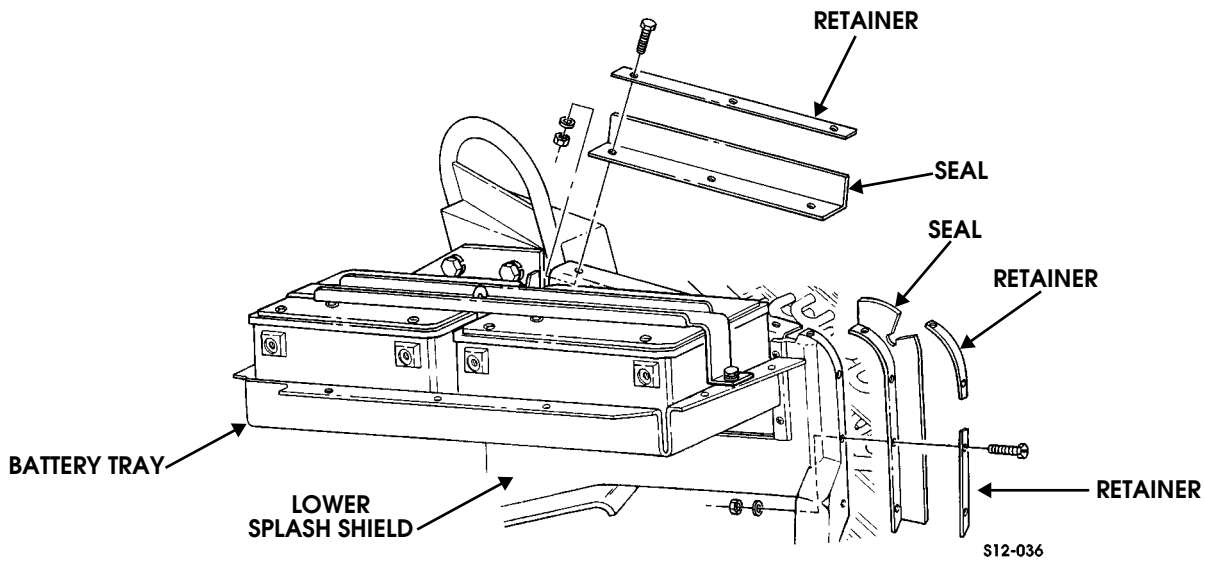

Figure 12-14: Seal and Retainer Attachment
3. Remove retainer bolts, and remove seal from battery tray and lower shield (Figure 12-14).
4. Install seals and retainers (Figure 12-14).